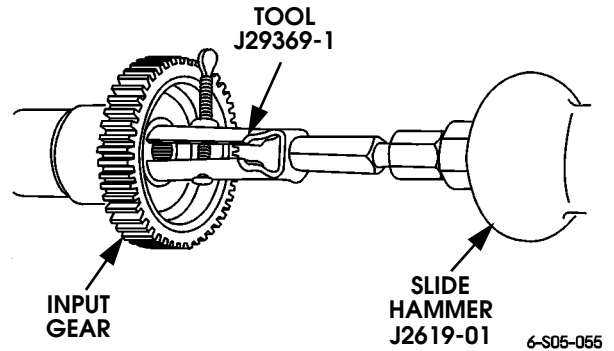

Figure 5-127: Removing Mainshaft Pilot Bearing From Input Gear
1. Remove pilot bearing from input gear with slide hammer J2619-01, and puller tool J29369-1 (Figure 5-127). Support input gear on vise or over precut notch or hole in workbench.